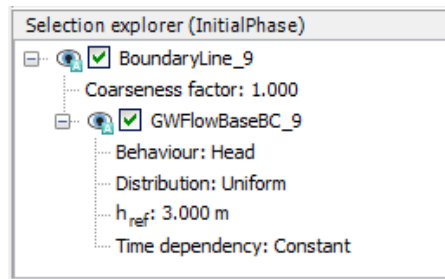

Figure 167: Initial phase with ground water flow base
5. In the **Selection explorer** in the **Behaviour** drop-down menu select the **Head** option and set  $h_{ref}$  to 3.0 as shown in Figure 167 (on page 191).